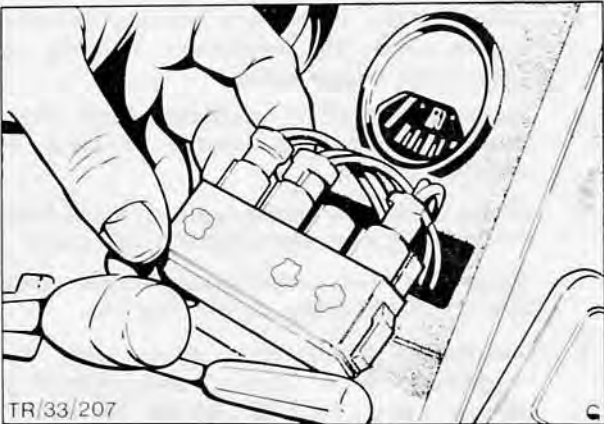

Fig. 10. Unplug warning lamp body complete with bulbs
- Unplug applicable bulb socket and remove wedge-type bulb, Fig. 10.